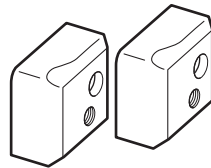
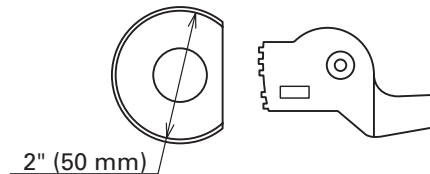

Fig. 25
Fig. 26
| (1) Cutter (Fig. 25)(Code No. 319706) | (2) Center Roller (D 50) Set (Fig. 26)(Code No. 321446) |